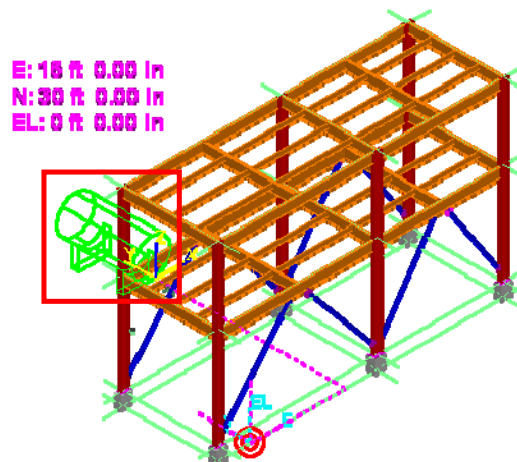

Figure 11: Output: Placement of the Tank
40. Click in the graphic view to accept the placement of the tank as shown in Figure 11.